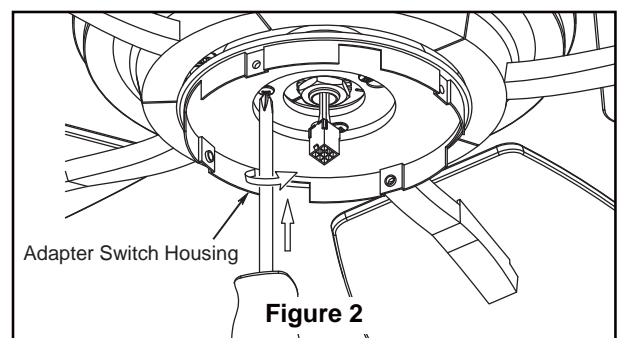

Figure 2
- 2.** Remove one of the three screws in the support bracket. Slightly loosen the remaining two screws. Assemble the adapter-switch housing to the housing support bracket using the two key slots in the adapter switch housing. Replace the third screw and securely tighten all three screws. (Figure 2)